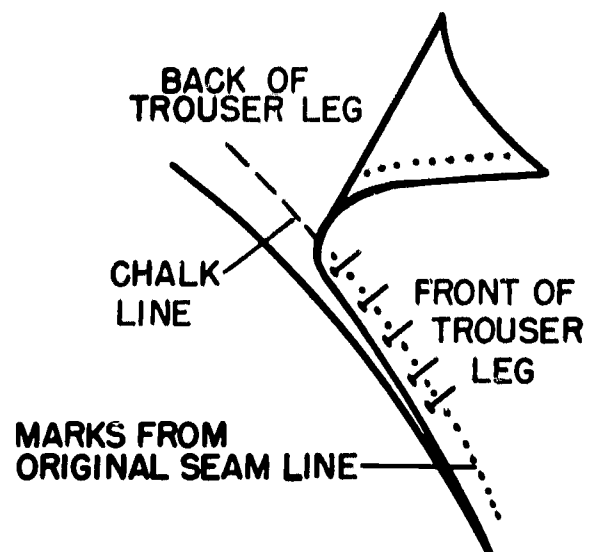

Figure 74.
8. Place the seam line of the front inseam on the chalk mark on the back inseam (see Figure 74). Pin into position. Repeat this procedure on other trouser leg.